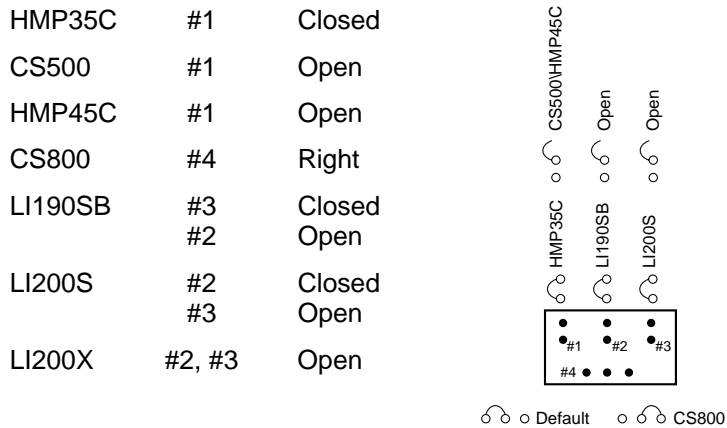

FIGURE 3.2-2. MetData1 Jumper Configuration
*Configure MetData1 jumpers as shown in Figure 3.2-2.
Install the Met Phone Kit as shown in Figure 3.2-2.